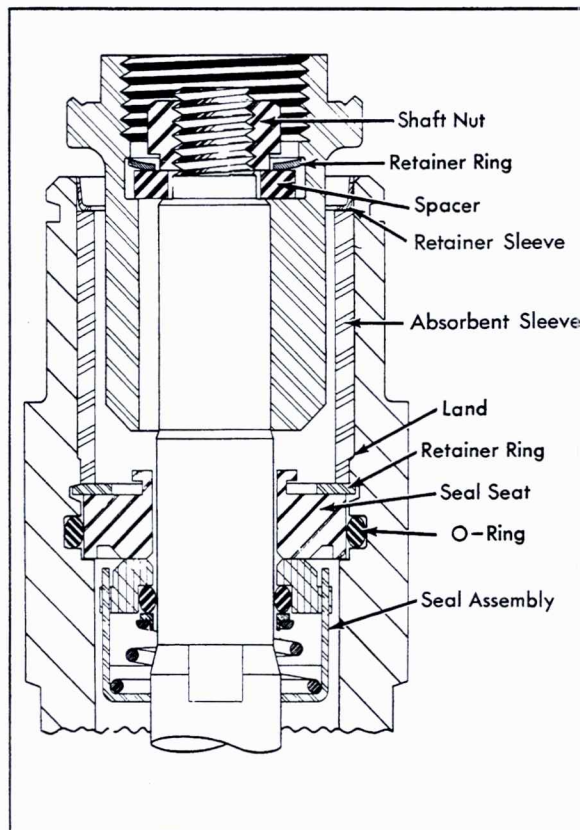

Fig. 1-53 Shaft Seal and Seat Installed
1. Coat new seal seat O-ring with clean refrigeration oil and install in compressor neck, making certain it is installed in bottom groove, Fig. 1-53. Top groove is for retainer ring.
5. Install new seal seat retainer ring, with flat face against the seal seat, using Snap Ring Pliers, J-5403 (#21). Sleeve from Seal Seat Remover and Installer, J-9393, may be used to press on the retainer ring so that it snaps into its groove, Fig. 1-53.